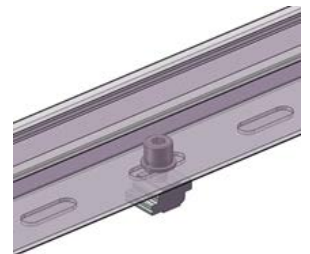

Figure 15
2) Insert the Z module with bolt (EZ-Z-STBW) into the slot hole of Cable Tray for each fixing point, as shown in Figure 15.